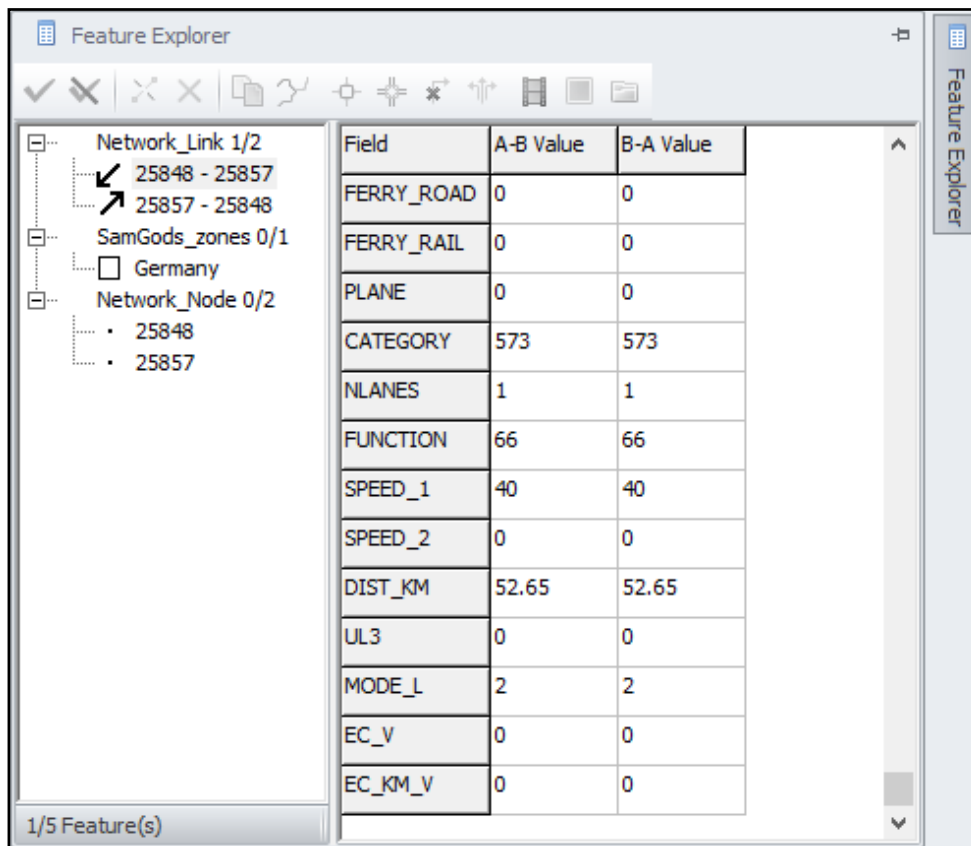

Figure 82 Feature explorer window
- 12) In the Feature Explorer window (see Figure 82), can be specified the following attributes. In order to assign the same values to both directions (i.e., A to B and B to A), make sure that both ways are selected in the Feature Explorer window.